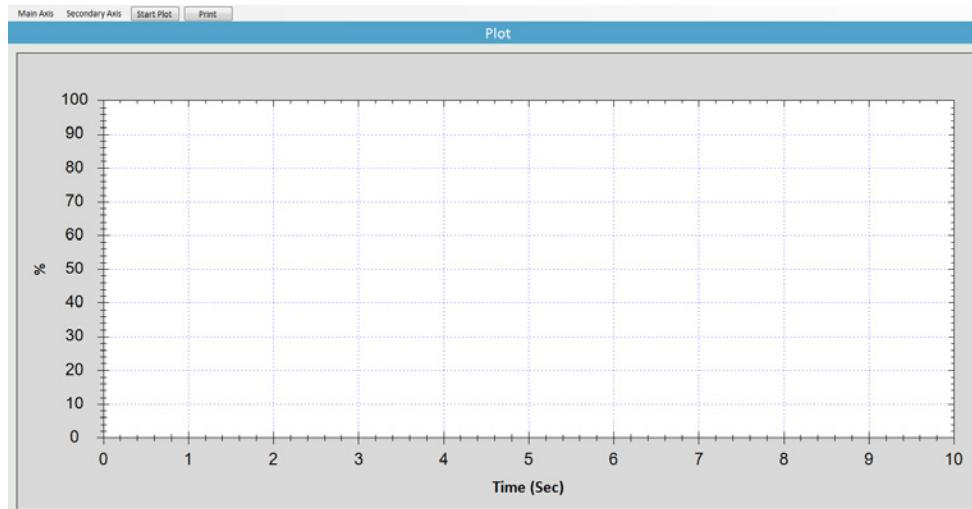
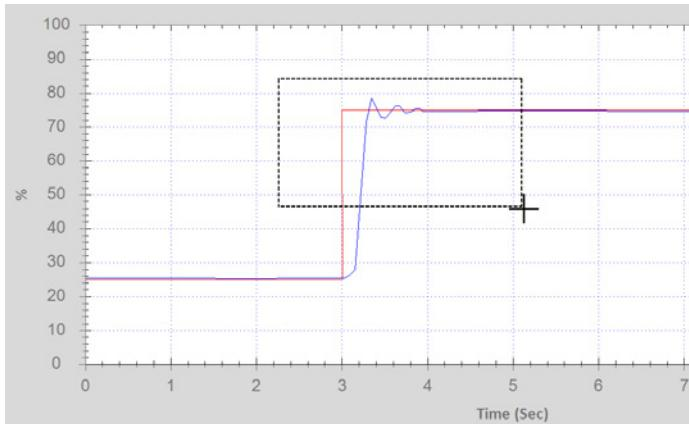

Figure 47: The Plot Screen
Figure 49: Marquee select in the Plot Screen
**NOTE** The Plot Screen has two distinct areas: the active area, which is the space within the horizontal and vertical axes, and the margin, which is the space that displays the ranges and units of measurement. The margin area has been grayed out in Figure 47 and Figure 49. It is not grayed out in the actual program.